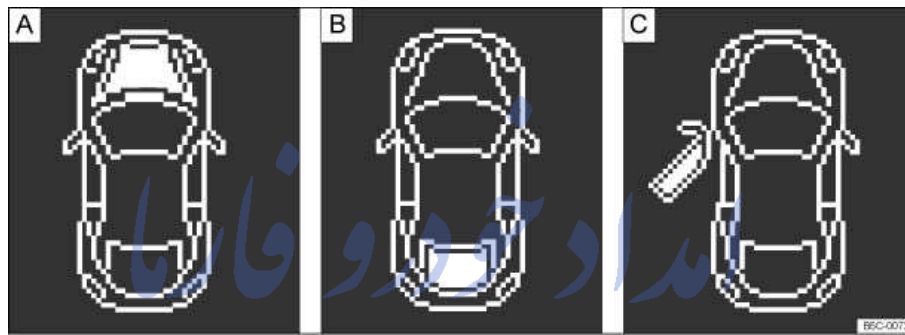

Fig. 14 In the instrument cluster display: A: Open engine hood, B: Open rear hatch, C: Open driver door.
- Open door, engine hood, or rear hatch ⇒ fig. 14